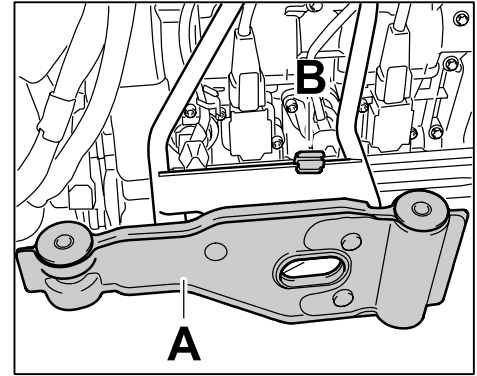

Figure 15
4.2.1 Remove stop-chock holder ⇒ *Figure 15 -A-* from old rear muffler and fit it on the new rear muffler.
4.2.2 Clip in hose clip at the top on the right ⇒ *Figure 15 -B-* and left rear muffler bracket at the engine side.